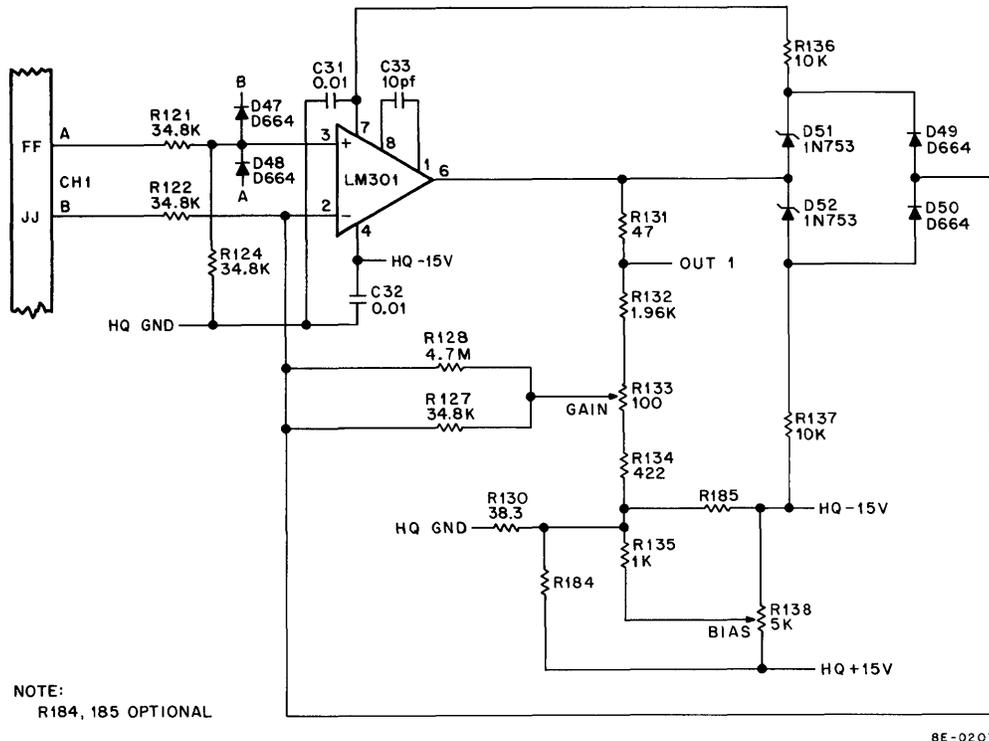

Figure 4-28 Differential Amplifier
4.3.2.1 Differential Amplifiers – Figure 4-28 shows one of the eight differential amplifiers used in the preamplifier and multiplexer expander module. For this discussion, we will refer only to channel 1 (E9 circuitry). The positive input to channel 1 is applied to pin FF, negative to JJ. Two adjustments are provided for this circuit. R138 (bias) is an offset adjustment which sets to amplifier output (OUT 1) equal to $0V$ for $0V$ input between FF and JJ. The gain adjustment, R133, will set the amplifier gain to swing $\pm 5V$ for a $\pm 1V$ change across FF and JJ.